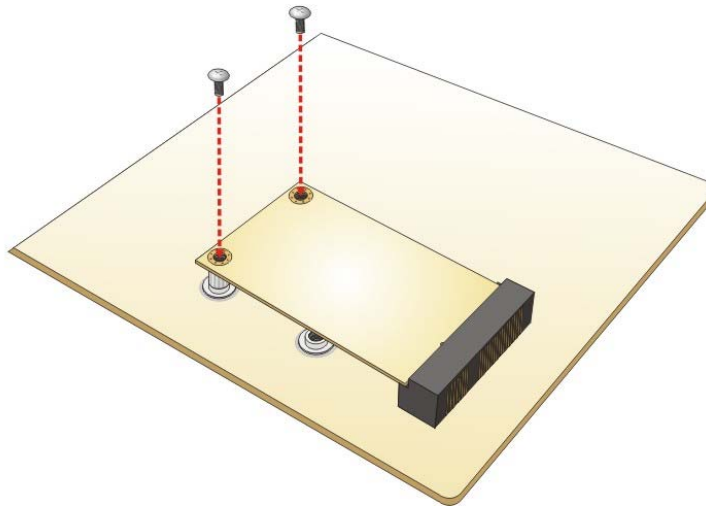

Figure 3-10: Securing the PCIe Mini Card
Step 5: **Secure the PCIe Mini card.** Secure the PCIe Mini card with the retention screws previously removed (Figure 3-10).